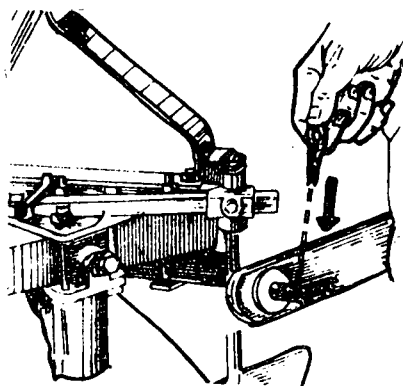

Fig. 4
- f) Hitch the lower right arm and insert the pin (Fig. 4).